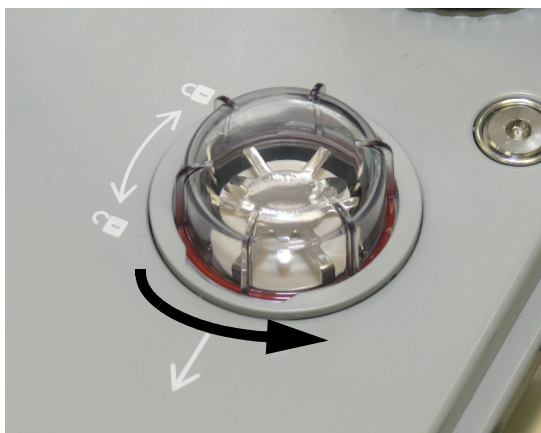

FIGURE 7-11 Valve Dome Removal
1. Remove the valve dome as shown in FIGURE 7-11, turning it counterclockwise.